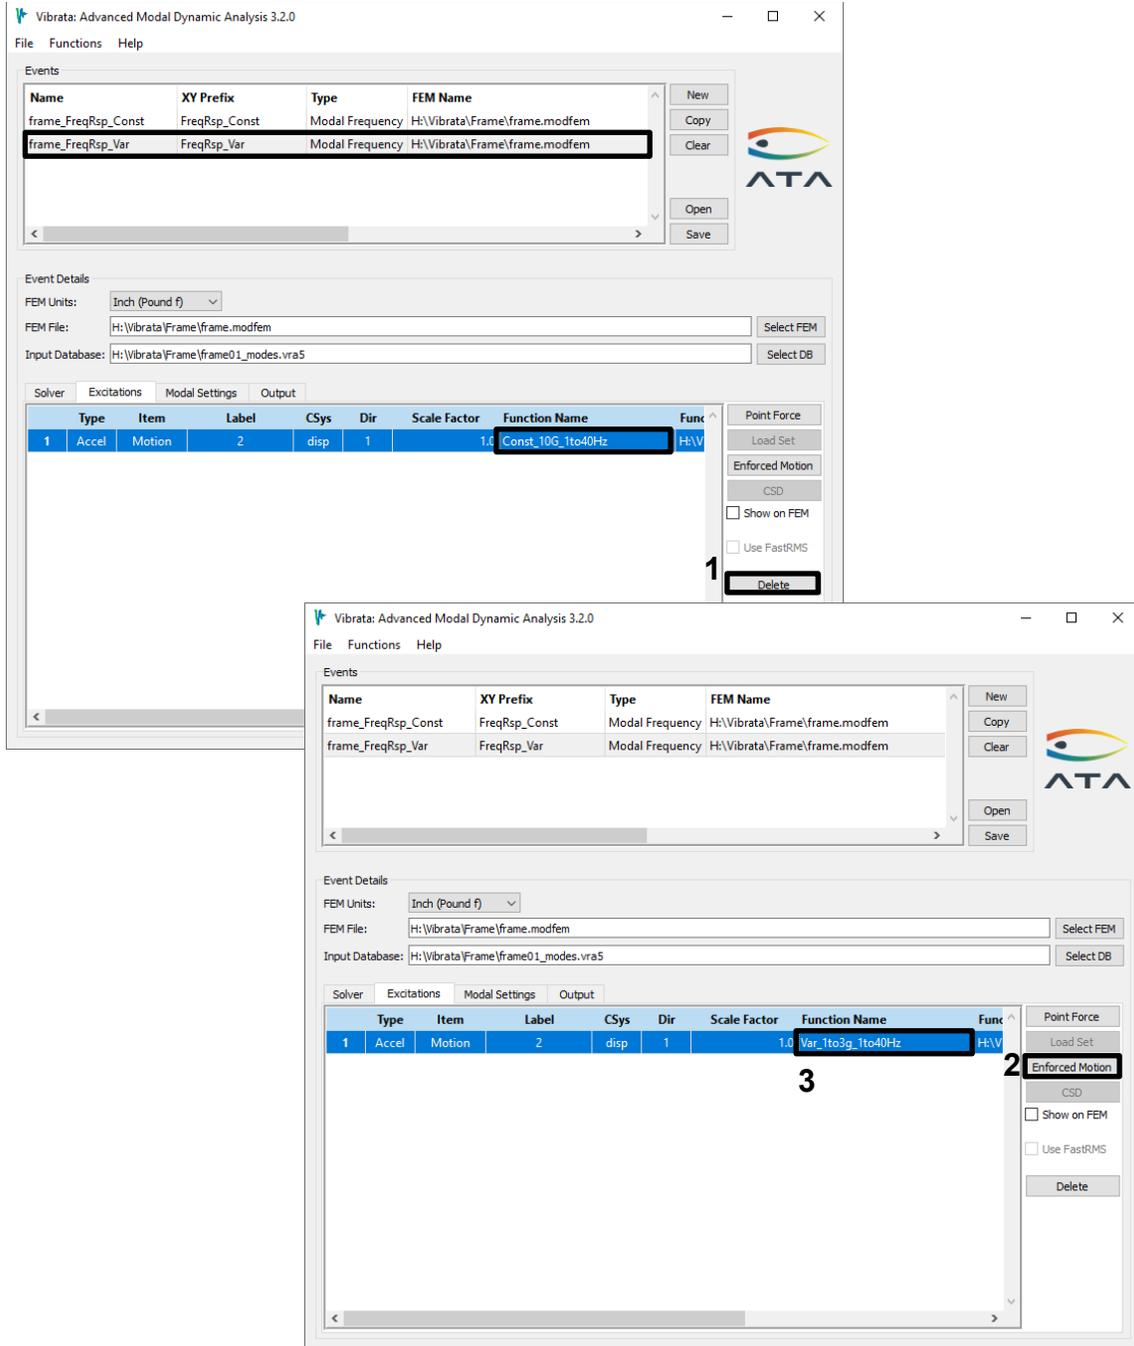

Figure 4-34. For the new (copied) event, delete the old excitation and create a new one.
- c. With the new event selected, go to the *Excitations* tab, delete the existing excitation, and define a new one using the variable-amplitude forcing function (Figure 4-34).